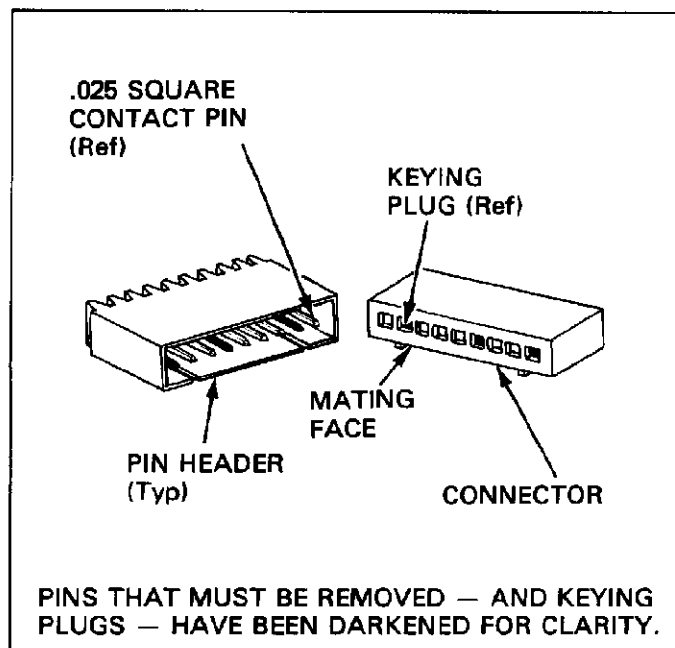

Fig. 2
Pin headers are keyed by removing pin contacts that align with keying plugs in a keyed connector (refer to Figure 2). Headers can be keyed before or after being attached to a printed-circuit (pc) board.
1. Determine which contact pin position(s) will align with a corresponding keying plug in the mating connector. Refer to Figure 2.